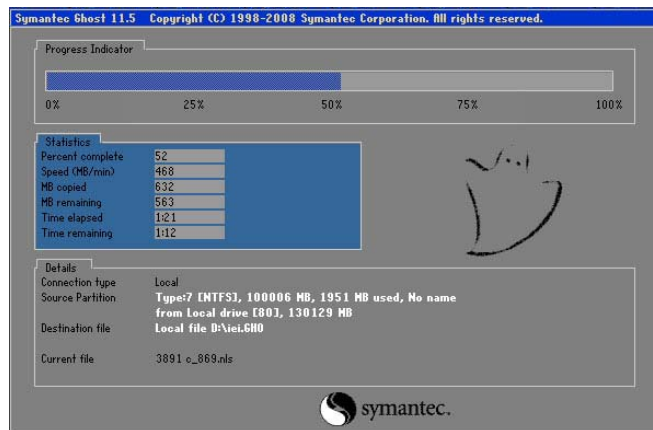

Figure C-19: Image Creation Process
Step 10: The Symantec Ghost starts to create the factory default image (**Figure C-19**).